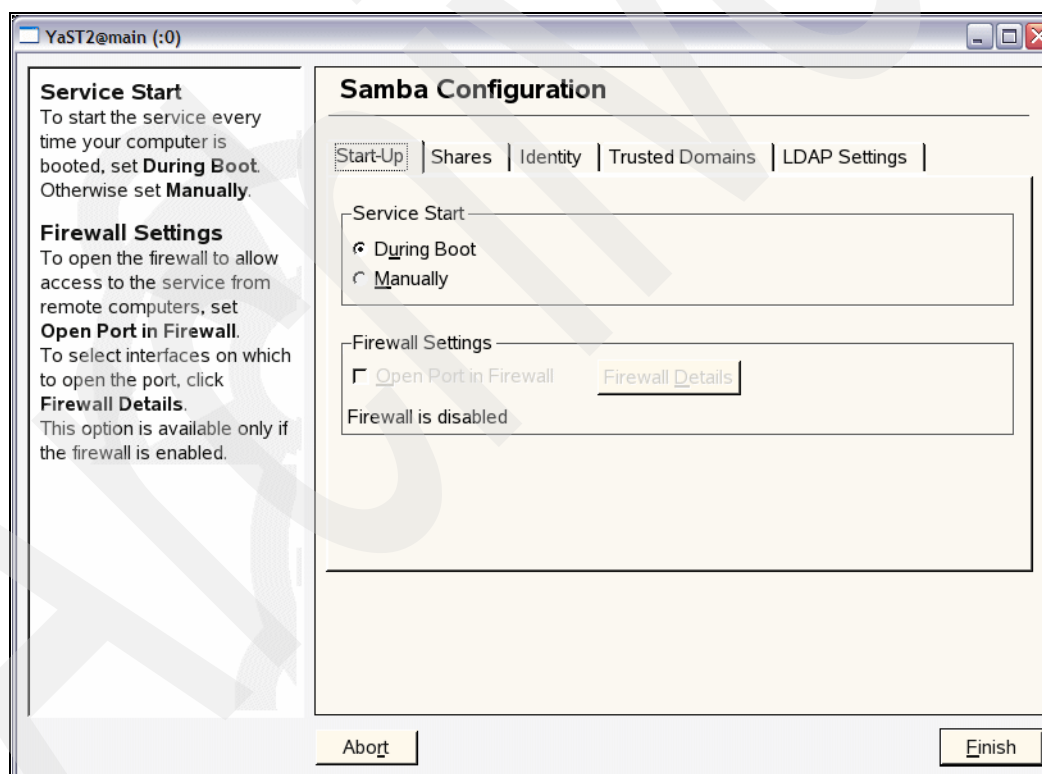

Figure 6-13 Samba Configuration Start-Up tab
1. Start the graphical Desktop with **startx**. Enter **yast2 samba-server** to display the Samba Configuration window, as shown in Figure 6-13 (note that the system will first display an Initializing window).